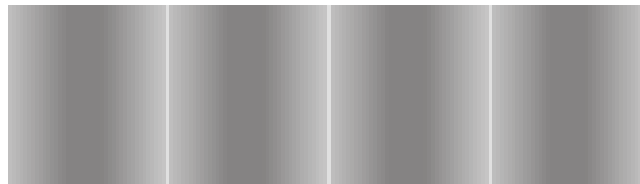

Figure 3-17: Test Image One
- If the camera is set for an exposure mode that uses an ExSync signal, the ExSync signal must be present and must toggle in order to output a line on the test image. Multiple transitions of the ExSync signal will produce a two dimensional image as shown in Figure 3-17 or Figure 3-19.